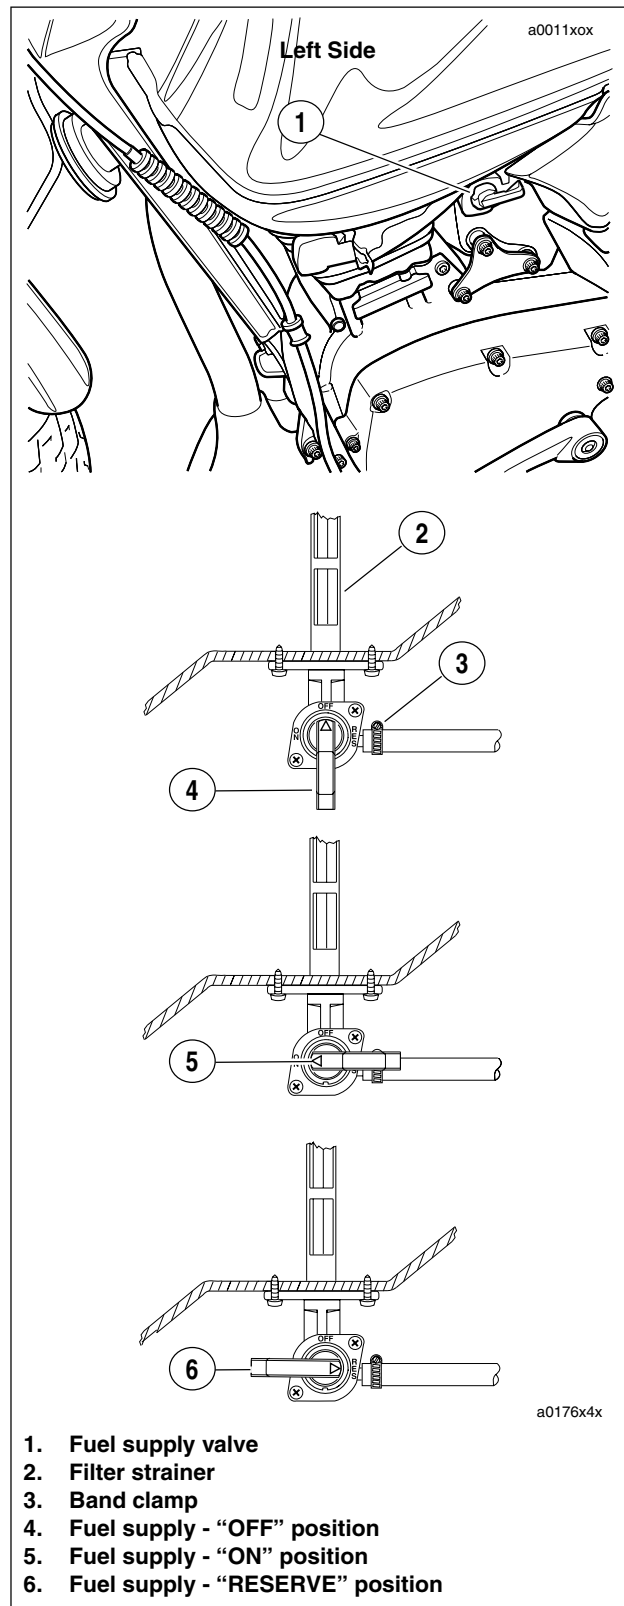

Figure 4-5. Fuel Supply Valve
1. See Figure 4-5. Rotate the 3-position valve handle on the fuel valve to the fully vertical position to shut the gasoline supply to the carburetor OFF.
See Figure 4-5. The fuel supply valve is located under the fuel tank on the left side of the vehicle. The gasoline supply to the carburetor is dependent upon the position of the valve handle.
- a. See Figure 4-5. Rotate handle on the fuel supply valve to the fully vertical position to shut the gasoline supply to the carburetor "OFF".
- e. See Figure 4-5. Rotate handle of fuel supply valve to "RES(ERVE)" to start the flow of fuel.